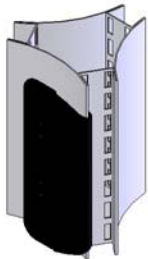

Figure 2
1. Insert the right adapter bracket, tabs facing down, into right side of office furniture equipment mounting slots at desired height (see Figure 2).